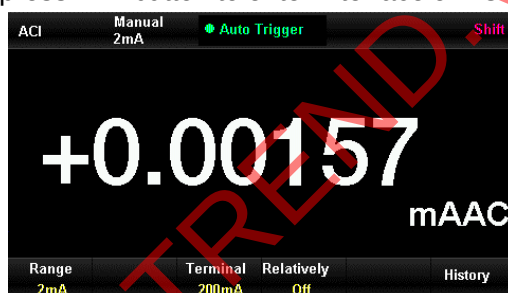

Figure 2-11 Interface of AC current measurement
- 1) Press **Shift** button and press **~V** button to enter interface of AC current measurement as Figure 2-11.